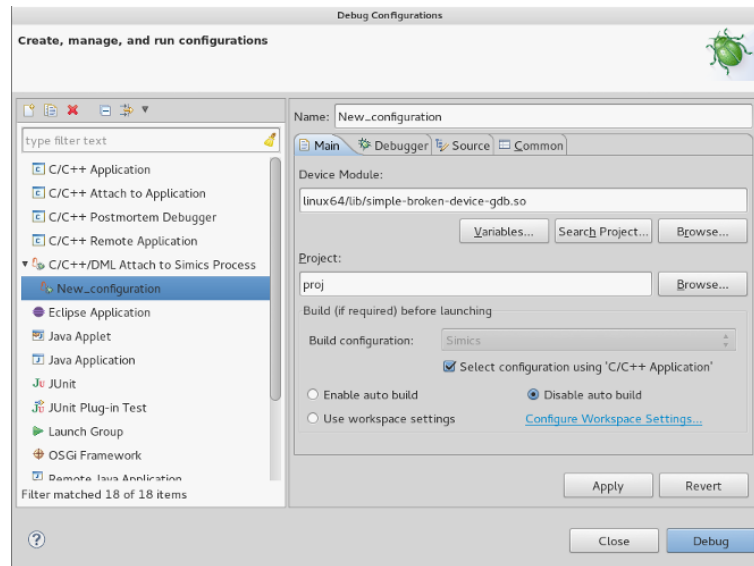

Figure 4.33: *Debug Configurations* dialog
- (c) select **Run** → **Debug Configurations...**, *Debug Configuration* is shown in Figure 4.33;